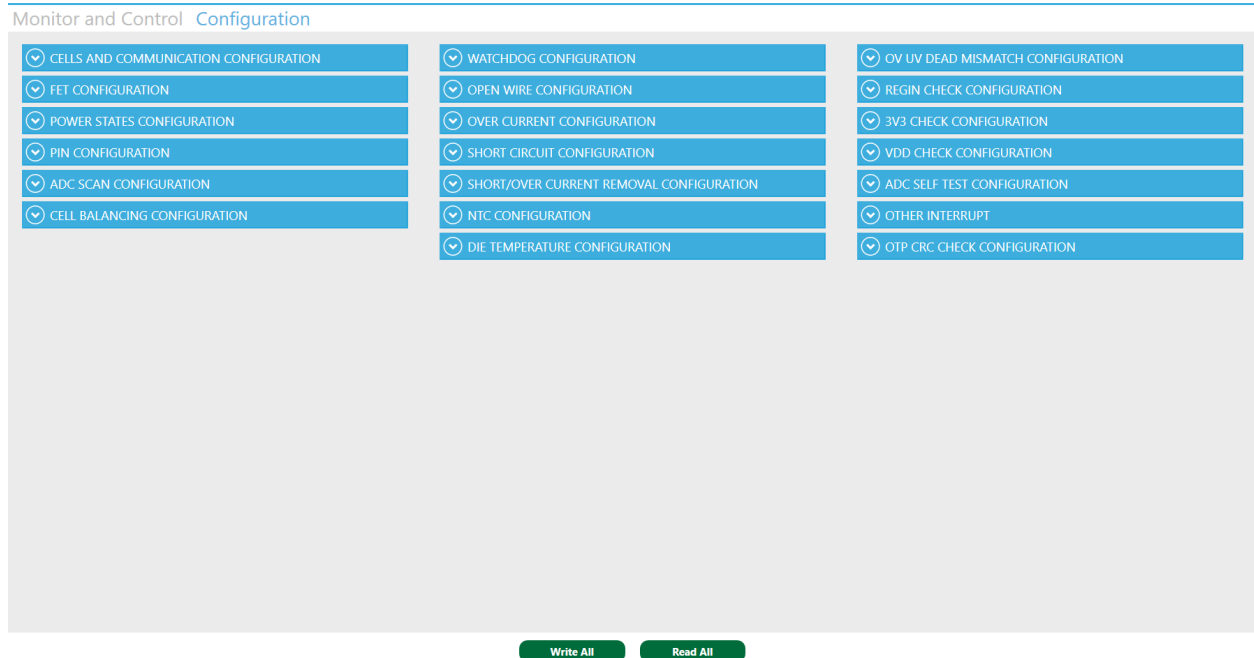

Figure 9: Configuration View
1. Click on the Configuration tab to view the configurations (see Figure 9). The software should automatically read all the configurations. Note that items with a lock symbol can be configured as read-only.